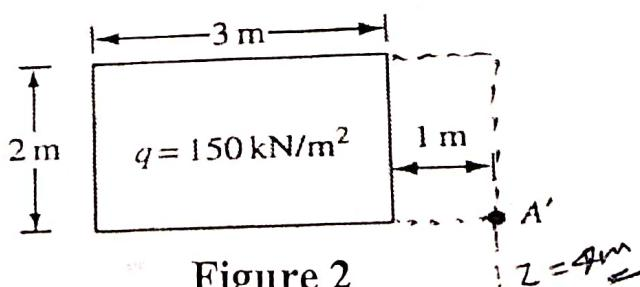

Figure 2  $z = 4 \text{ m}$
- a. The plan of a uniformly loaded rectangular area is shown in Figure 2. Determine the vertical stress increases,  $\Delta\sigma$ , below point A' at a depth  $z = 4 \text{ m}$ . (Use the Influence Factor diagram) CO4